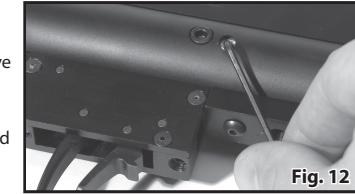

Fig. 12
4. Using a 5/64" Allen wrench, remove the jam set screw first to allow access to the metering screw. (Fig. 12) (Be sure to stow the jam set screw in a safe place). Find the metering screw beneath the jam set screw previously removed. Using a 5/64" Allen wrench turn the metering screw clockwise to restrict the flow of air into the barrel and reduce the pellet velocity.